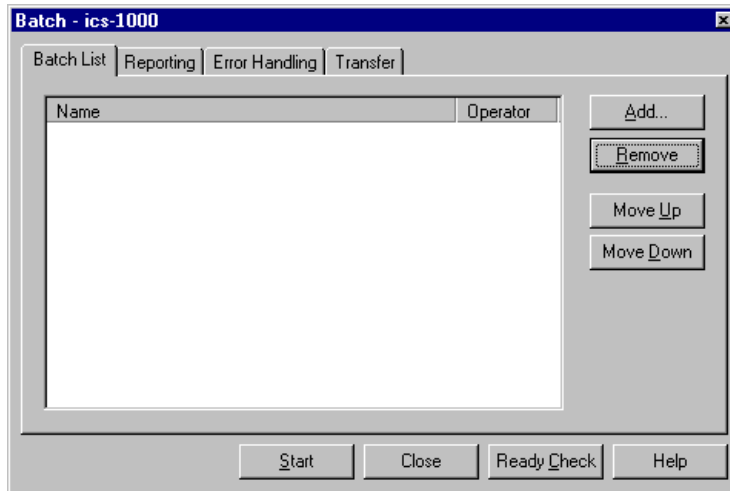

Figure 3-10. Batch Dialog Box
3. To start the sample processing, make sure the System Control panel is open (see Section 3.3) and is the active window. Then, select **Batch>Edit**. The Batch dialog box opens (see Figure 3-10).